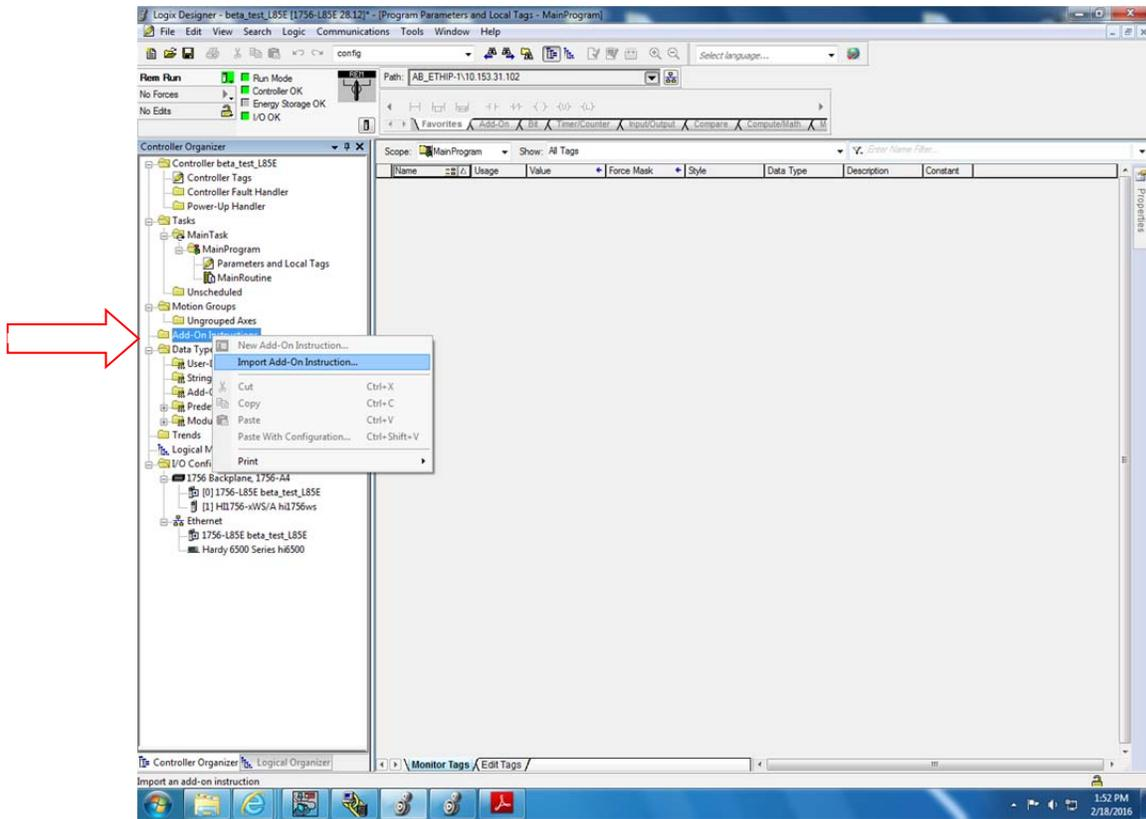

Figure 1
- Import the HI6500_Faceplate_AOI_v1_2. See Figure 1